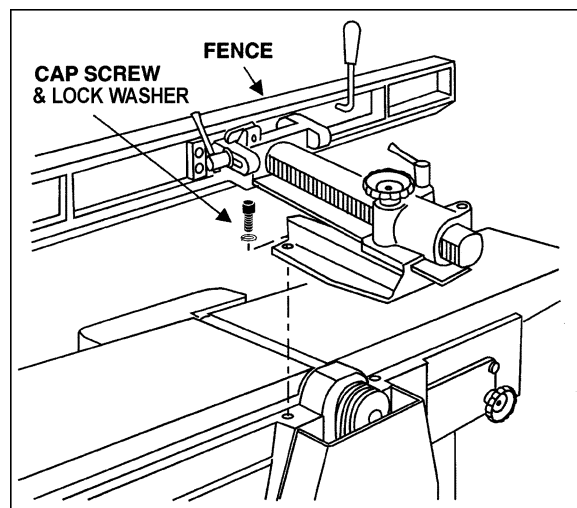

Figure 2
1. Use an assistant to help place the fence assembly on top the table, aligning the holes in the fence assembly with the holes in the table base, as shown in Figure 2.
2. Use the two socket head cap screws and two lock washers (Figure 2), and tighten securely with a 10mm hex wrench.